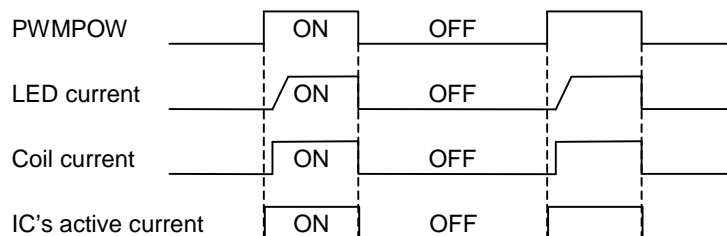

Figure 43.
2) Power control PWM control is controlled by providing PWM signal to PWMPOW, as it is shown Figure 43. The current setting set up with PWMDRV logic is chosen as the H section and the current is off as the L section. Therefore, the average LED current is increasing in proportion to duty cycle of PWMPOW signal. This method is, because IC can be power-off at off-time, the consumption current can be suppress, and the high efficiency can be available, so it makes it possible to brightness control until 50µs (MIN1% at 200Hz). And, don't use for the brightness control, because effect of power ON/OFF time changeover is big under 50µs ON time and under 50µs OFF time. There is no effect of ON/OFF changeover at 0% and 100%, so there is no problem on use.